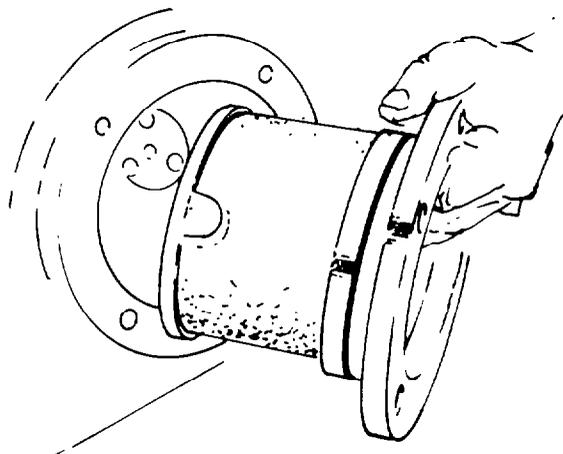

Fig. 323 — Installing Retainer
- n. Place the shim pack which was removed and wired together at initial disassembly, or new shims of equal thickness, onto the bearing retainer. Fit a new O-ring onto the bearing retainer, then install the retainer into the carrier housing with the aid of alignment pins. Ensure the bearing retainer alignment pin is aligned with the slot in the left-hand bearing cup (see figs. 323 and 324).